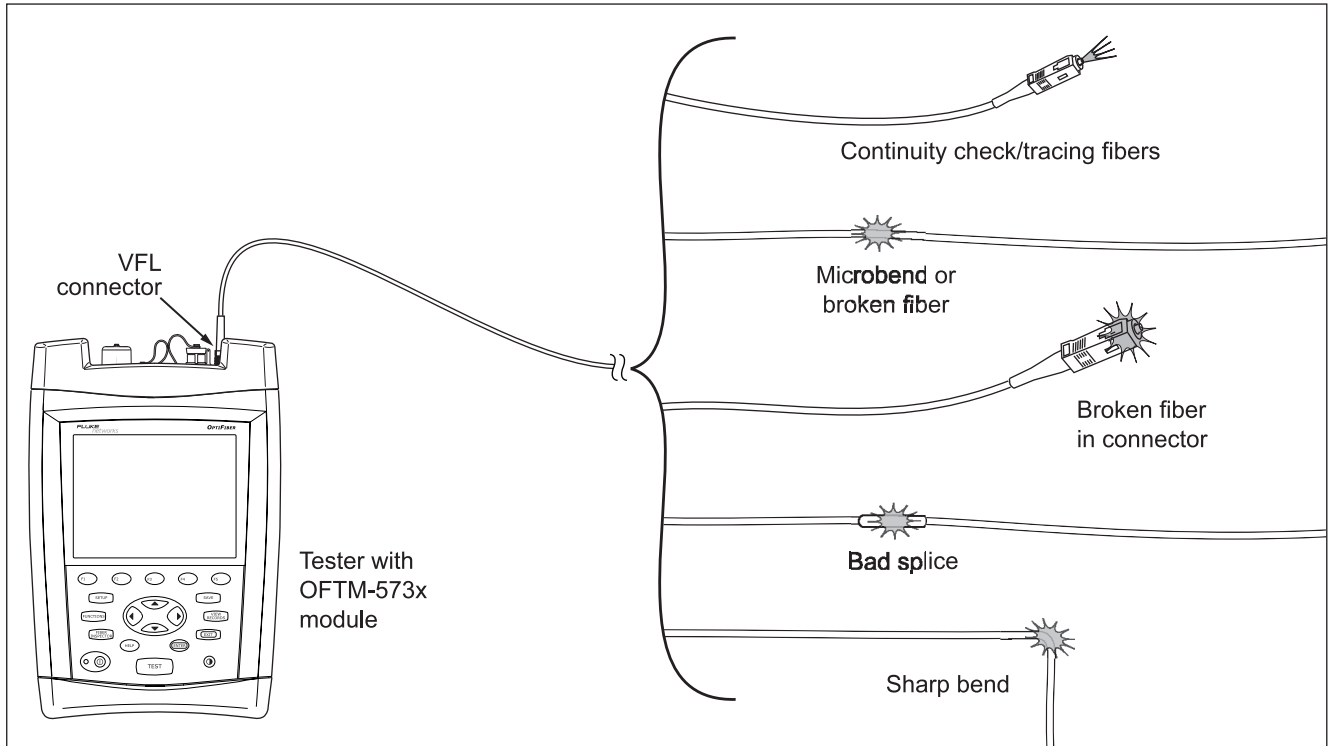

Figure 37. Using the Visual Fault Locator
- 6 Look for the red light to locate fibers or faults, as shown in Figure 37.